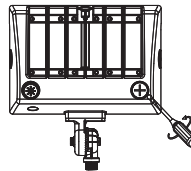

figure 5.4
- Step 3: After adjusting the required control function (figure 5.3), tighten the metal plug and the plastic plug clockwise. (figure 5.4)